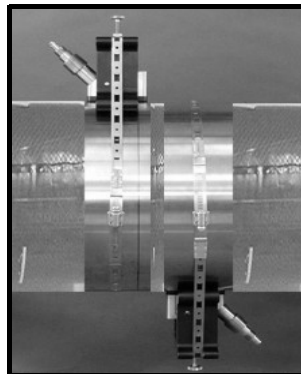

Figure 1-27: Completed DMP-1 Installation
6. Wrap each of these strips around the pipe on the outside edge of the clamping fixture, one upstream and one downstream. The completed installation should appear similar to Figure 1-27 below.